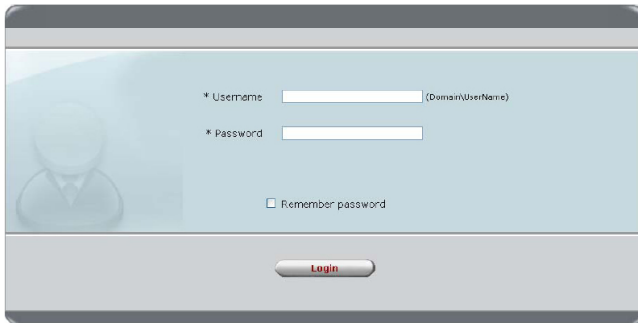

Figure 5
11. Type in the Username and Password to log in. Username and Password are your Windows user name and password. If you have a user name but no password, please leave the password field blank. See **Figure 5**.